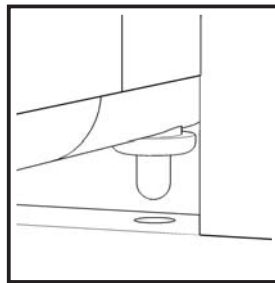

Figure 9
Attach Doors (L) and (M) by inserting the lower spring pin into the hole until it clicks and then do the same for the upper spring pin. (see Figure 9)